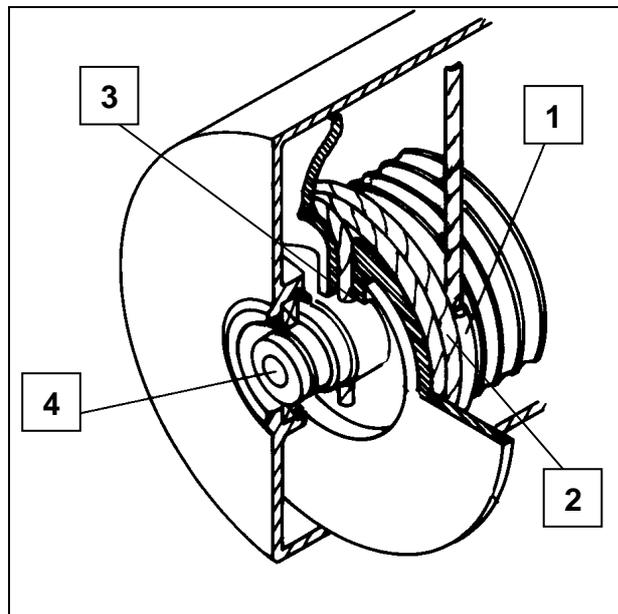

Fig. 29 Cable change at the cable drum
- Then put the cable through the tangential bore (1) of the drum (see Fig 29).
- Push the cable approx. 1 meter through so that you can place it in the last two outer cable grooves (2).
- The cable is now inserted in the bore of the clamping point (3) until it is visible in the control bore (on the front side of the drum guard).
- Clamp the cable in the shaft with the screw (4).
- Pull both loose cable coils (2) tight.